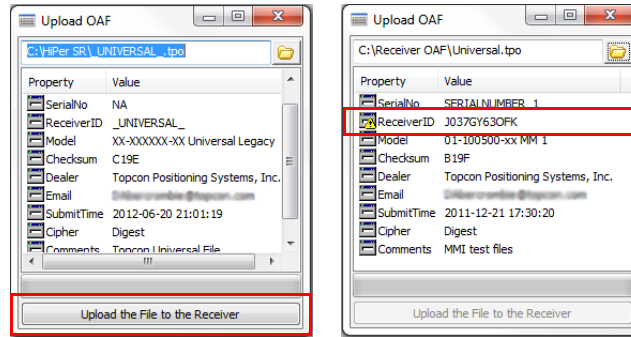
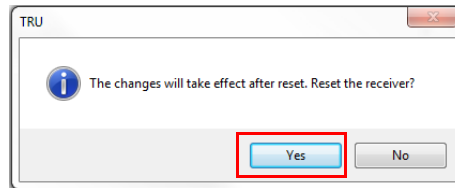

Figure 12: OAF Compatibility Check
Figure 13: Reset the Receiver
- Press **Upload the File to the Receiver** (Figure 12) to start loading the file. If an OAF file is uploaded to the receiver, TRU will offer to reset the receiver to put new authorization options into operation (Figure 13).